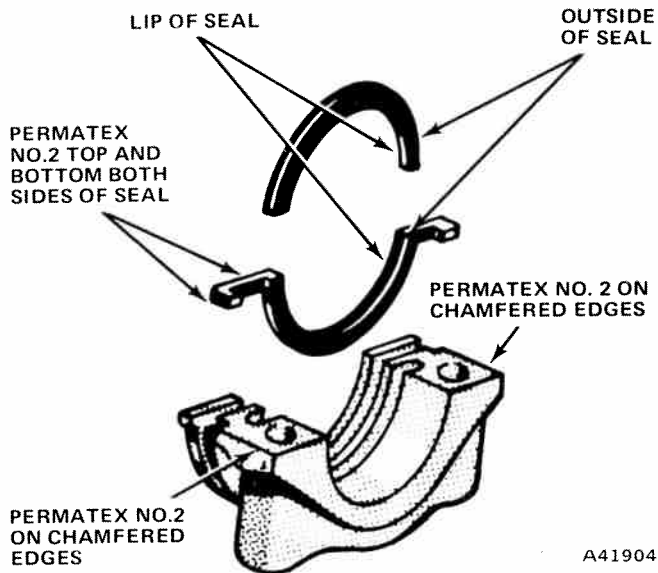

Fig. 1A-35 Rear Main Oil Seal and Cap Installation
- (2) Clean gasket surfaces of oil pan and engine block. Remove all sludge and dirt from the oil pan sump.
- (3) Clean main bearing cap thoroughly to remove all sealer.
- (4) Wipe seal surface of crankshaft clean and lightly coat with engine oil.
- (5) Coat block contacting surface of the upper seal with soap.
- (6) Coat lip of seal with engine oil.
- (7) Install upper seal into engine block.
(8) Coat both sides of lower seal end tabs with Permatex No. 2 or equivalent, being careful not to apply sealer to lip of seal.
(9) Coat outer curved surface of lower seal with soap and the lip of the seal with engine oil.
(10) Install seal into cap recess and seat it firmly.
(11) Coat Permatex No. 2 or equivalent on both chamfered edges of the rear main bearing cap (fig. 1A-35).
(12) Install rear main bearing cap and inserts.
(13) Tighten all main bearing capscrews to 80 foot-pounds torque.
(14) Install oil pan using new gaskets and seals. Tighten drain plug securely.
(15) Fill the crankcase with new oil to the specified dipstick level.